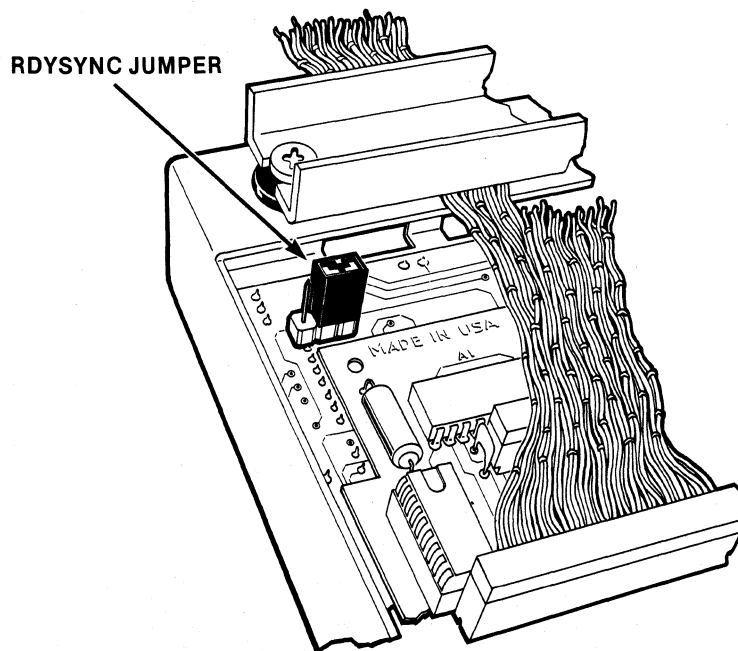

Figure D-1. RDYSYNC Jumper
2. Locate jumper on the bottom board, visible near the user cable assembly; see figure D-1.